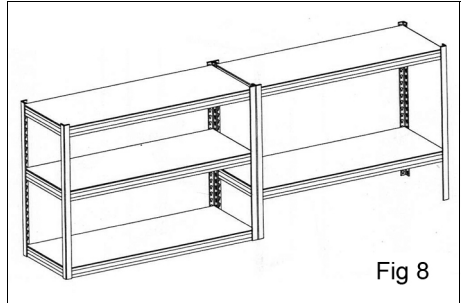

Fig 8
1. An alternative workbench configuration is shown in Fig 8.